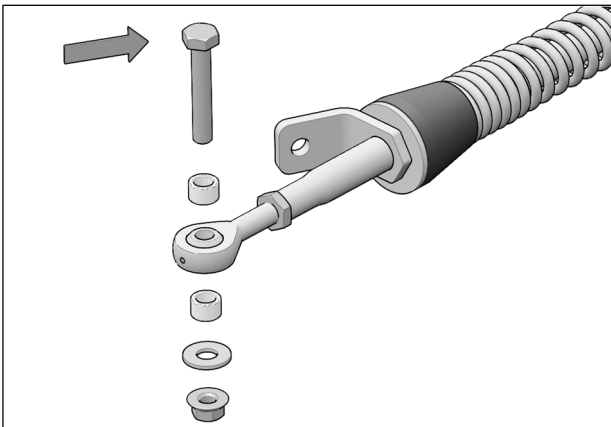

Fig. 12
4. Remove bolts, nuts, washers and bushings from front stabilizing rod ends as shown in Fig. 12